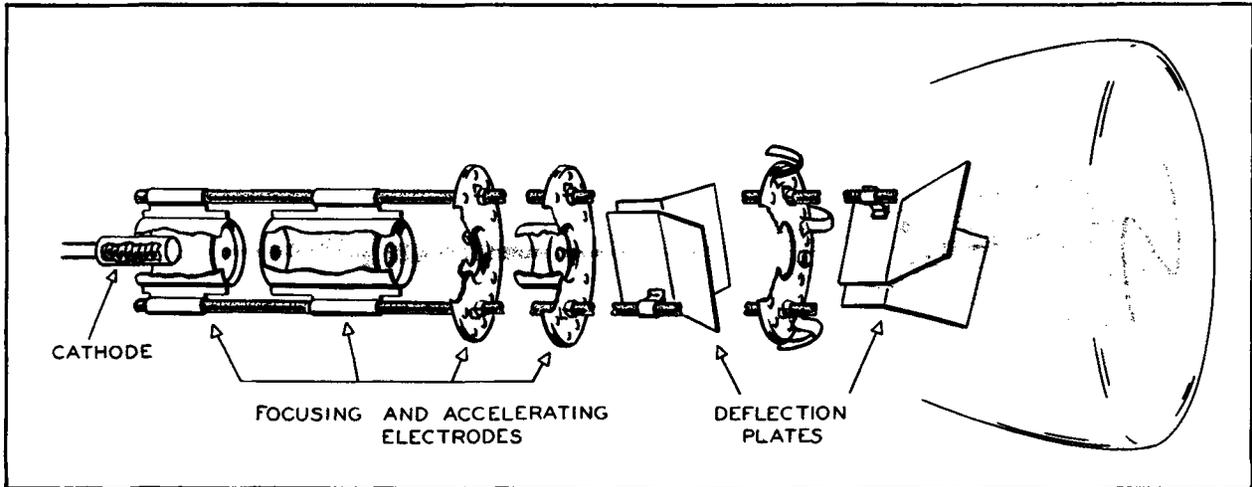

Figure 1. The Internal Structure of an Electron Gun and the Path Travelled by the Beam in Reaching the Fluorescent Screen.
2. Set the tuning dial to the IF frequency desired, reading the red dial figures (0-600 kc). If other frequencies are desired they may be obtained by setting the black dial figures 1 mc higher than the desired center frequency.
The heart of an oscilloscope is the cathode-ray tube, for it is on the fluorescent screen of this tube that the various waveforms applied to the unit are depicted. A beam of electrons is developed in a gun structure located at the narrow or neck end of the tube. Electrons emitted by a hot cathode are accelerated forward and as they travel through a series of metallic cylinders, they are formed into a narrow beam. This beam then travels down the length of the tube to the fluorescent screen. See Figure 1. Wherever the beam strikes the screen, visible light is produced.